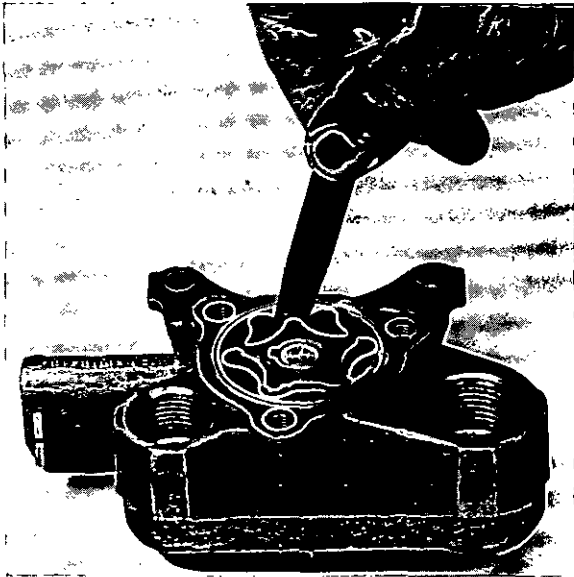

Fig. J.6
2. Install outer rotor in pump body making sure chamfered edge of rotor enters pump body first. Check clearance between maximum diameter of inner rotor and minimum diameter of outer rotor at all points (Fig. J.6).